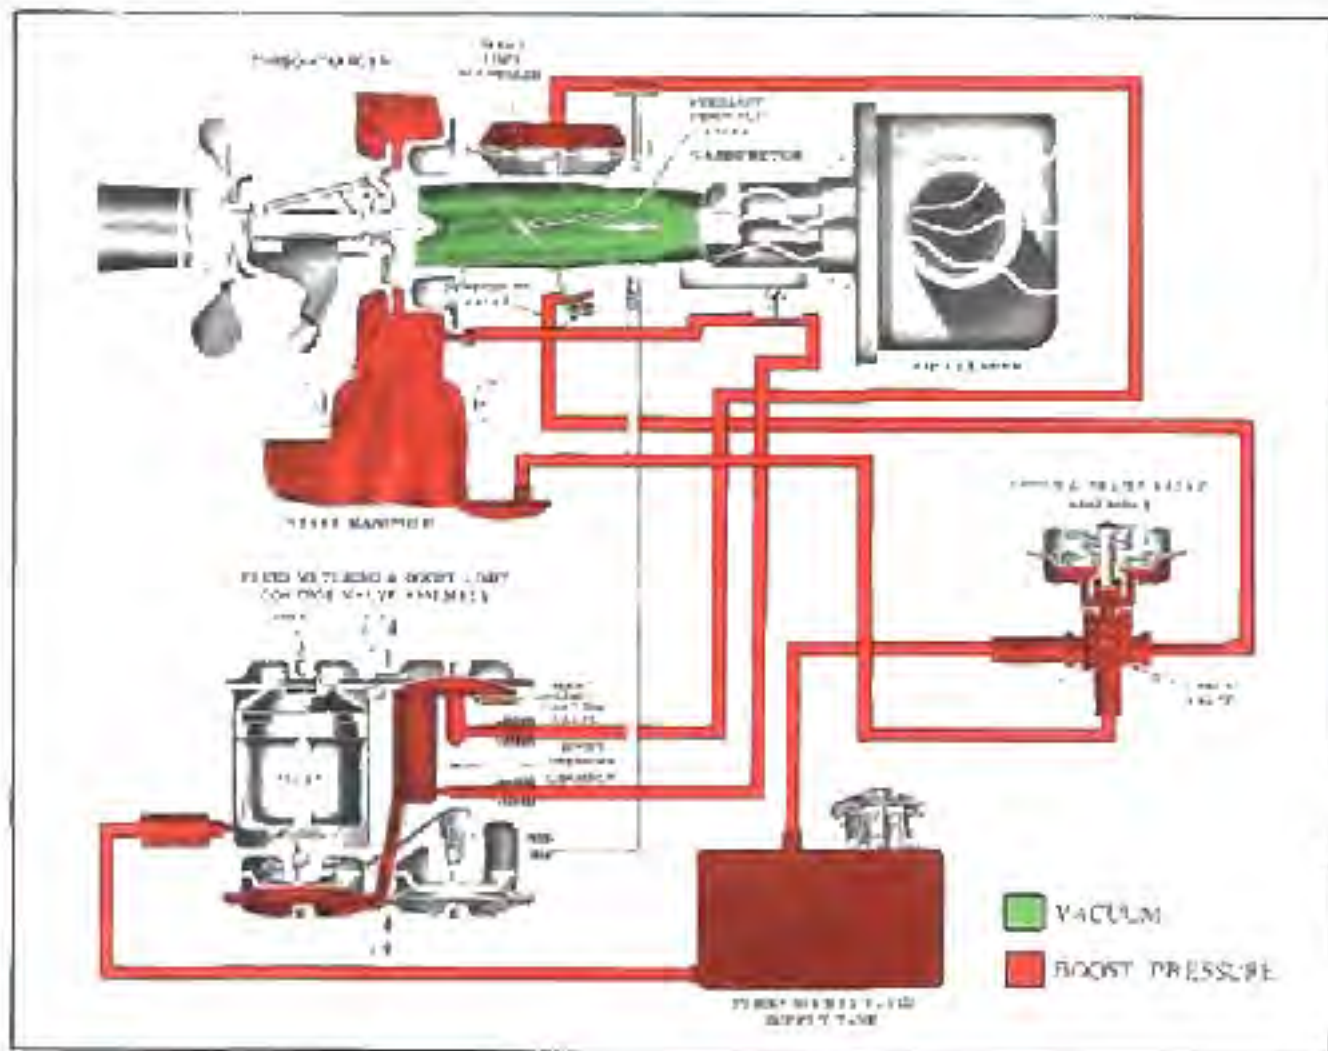

Fig. 9-110 Boost Limit Operation
**BOOST LIMIT OPERATION (Fig. 9-110)**